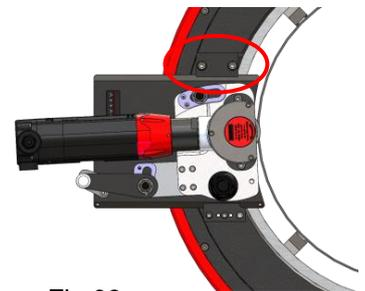
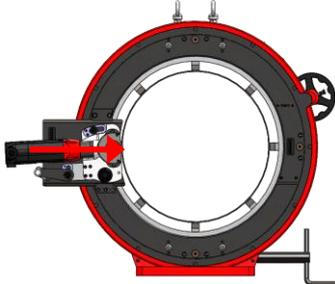
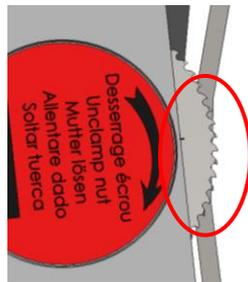

Fig.03
Fig.04
Fig.05
- Put the system in the working position, the penetration lever in the screwhead on the plate (Fig.03).
- Unscrew the two adjustment screws (Fig.03) and position the system (Fig.04) so that the upper surface of the tool's teeth pass the interior of the tube by 2 to 3mm (Fig.05).
- Tighten the two screws once the adjustment is completed (Fig.03).